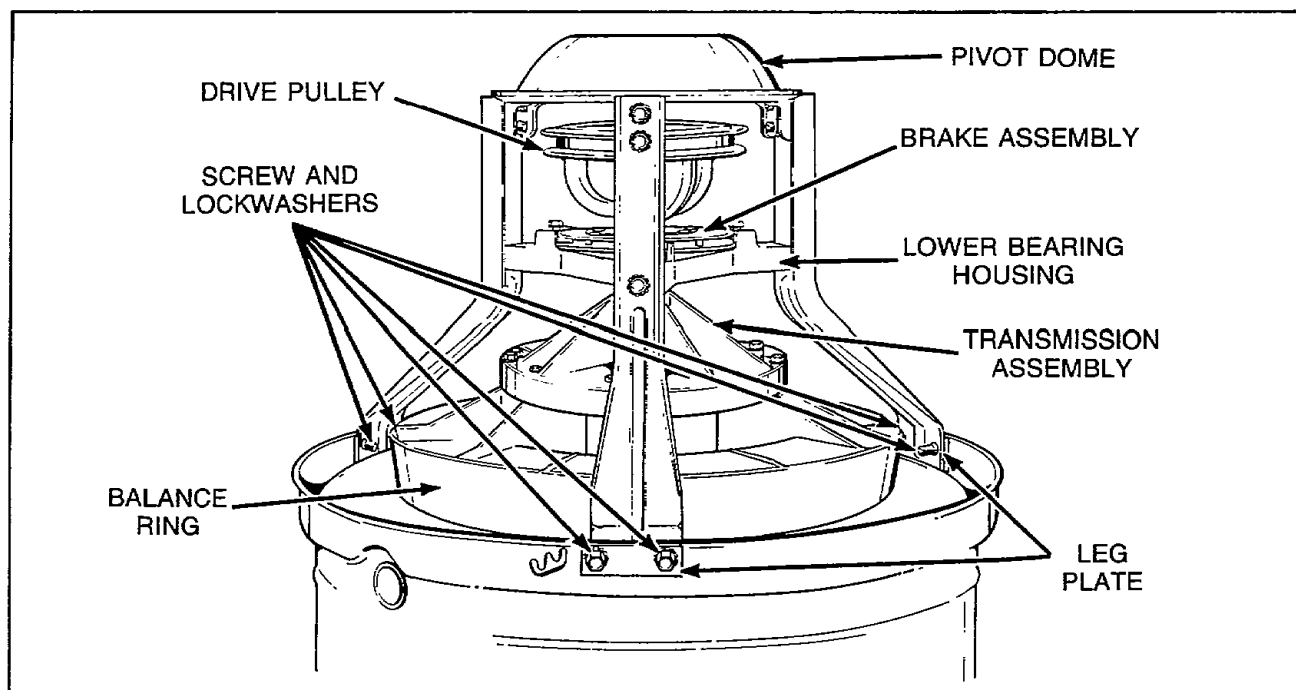

Figure 26
- s. Remove screws and lockwashers holding each support leg to outer hub, *Figure 26*. Then lift transmission, balance ring and pivot dome off tub.
- v. Remove screws and lockwashers holding each support leg to outer tub, *Figure 26*, then lift pivot dome, brake assembly and lower bearing housing off transmission tube.